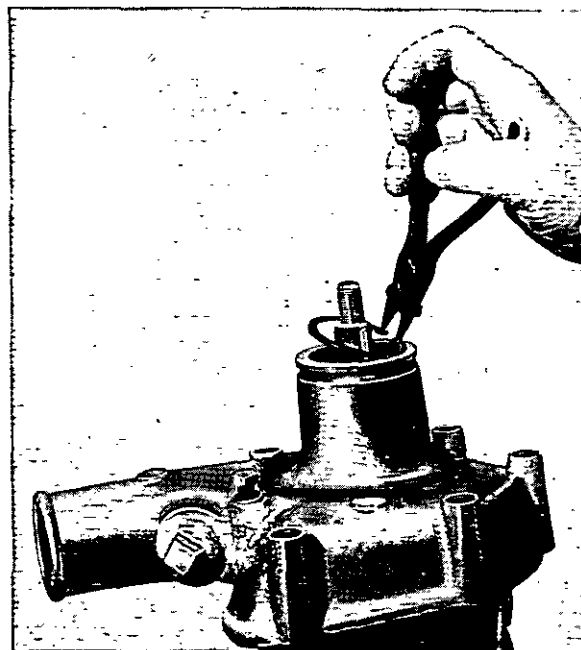

Fig. L.5. Removing Bearing Retaining Circlip.
5. Remove the bearing retaining circlip (Fig. L.5).